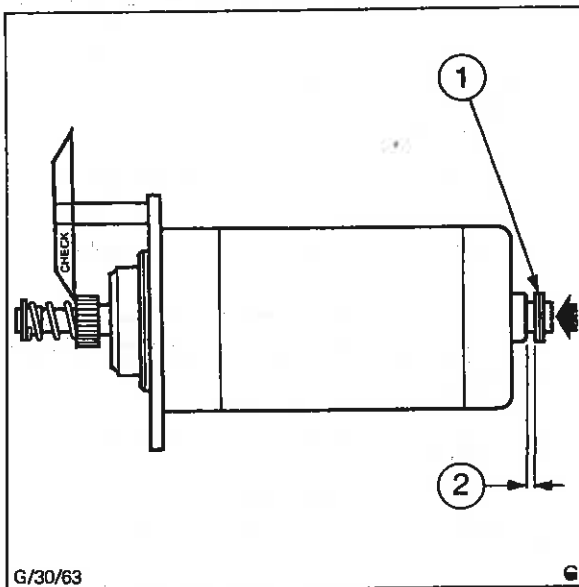

Fig. 23 - Adjustment of Armature End Float
18. Check that shims (36) have all been removed from the armature shaft, and then replace commutator end shield (15). Fit through bolts (35) and tighten securely to the specified torque.
19. Replace the thrust washer (33) and circlips (17), but do not fit shims (16).
- (a) Bolt the gauge onto the mounting flange with the arm marked "CHECK" towards the pinion as shown in Fig. 23, then push the armature towards the drive end of the machine until the pinion face just touches the gauge. With the armature held in this position, measure gap 'X' between thrust washers (33) and the commutator end shield, using feeler gauges. Shim washers, having a total thickness equivalent to the measurement taken by the feeler gauges should then be fitted between the thrust washer and circlip. The shim washers must be well greased before use, and are available in two thicknesses 0,10 and 0,20 mm (0,004 and 0,008 in). A combination of these sizes giving the closest approximation to the required dimension should be used.